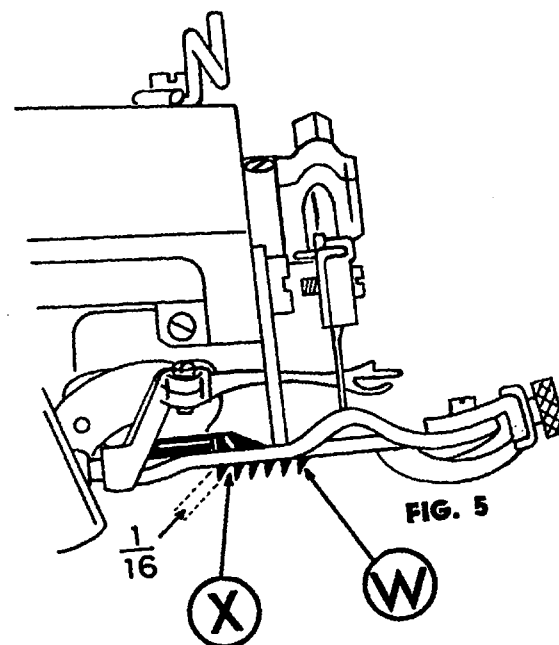

FIG. 5
11. (FIG. 5) Feeder should be below Presser Foot a maximum of $3/32''$ at point (W) and a hair less at point (X).